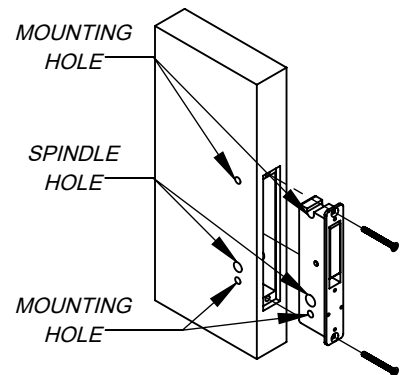

Figure 10
- 5) Insert lock assembly and secure with two #10-32 X 1-7/8" flat head mounting screws. Ensure that the spindle hole is on the bottom (Figure 10).